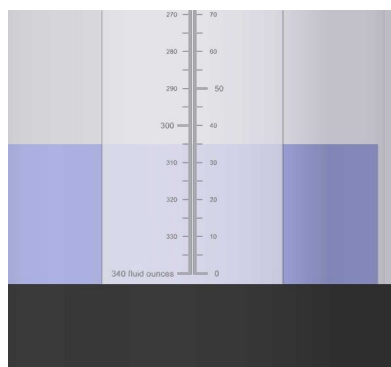

Figure 2
10. Press the HAND button and start the stopwatch simultaneously. Stop the pump when the stopwatch reaches one minute. Note the total ounces of chemical that is in the calibration tube, see figure 2 below. This number should equal the number of ounces needed to flow through the pump in one minute. If the ounces needed per minute have not been met, re-adjust the pump speed up or down accordingly and repeat steps 9 and 10 until the liquid flow rate has been matched.